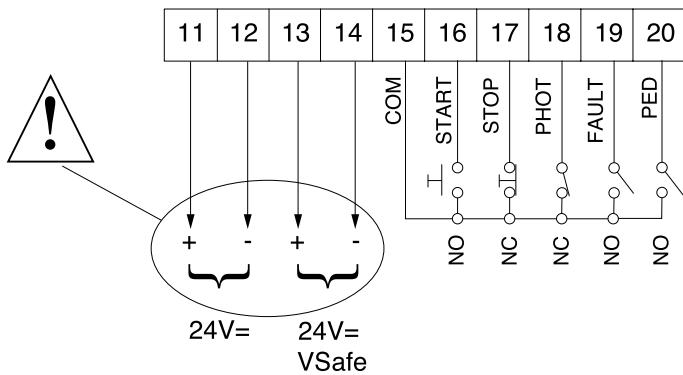

Fig. 7
7) SERIAL CONNECTION USING SCS BOARD (Fig.7)
Following the diagram in Fig.7, proceed to connecting all the **LIBRA** control panels, exclusively using a telephone-type line.
Loop closing of the serial connection (indicated by a dotted line in Fig.7) is only needed if you require to check the no. of the connected devices by means of UNIPRO.